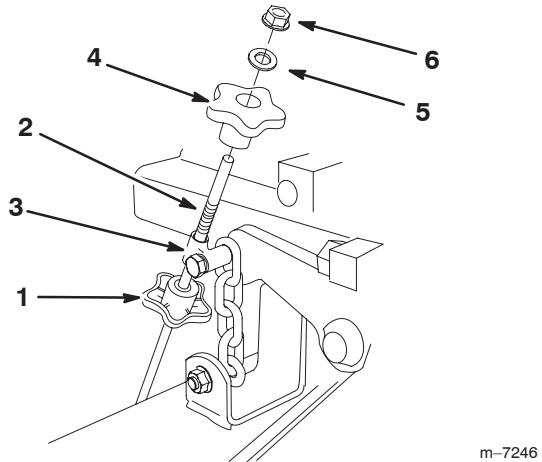

Figure 6
1. Install one knob on the threaded end of the lift rod with the hub side up as shown in Figure 6.
2. Guide the lift rod end with the inverted hub through the adjuster mount and install the another knob with the hub side down (Fig. 6).